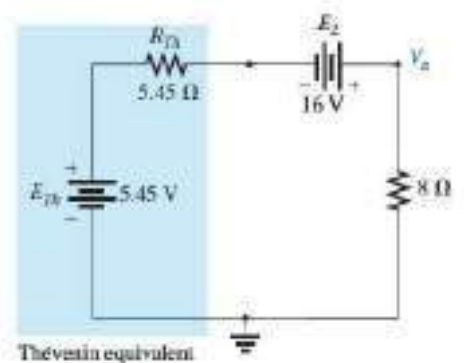

FIG. 9.59
b. The reconstructed network is shown in Fig. 9.59.